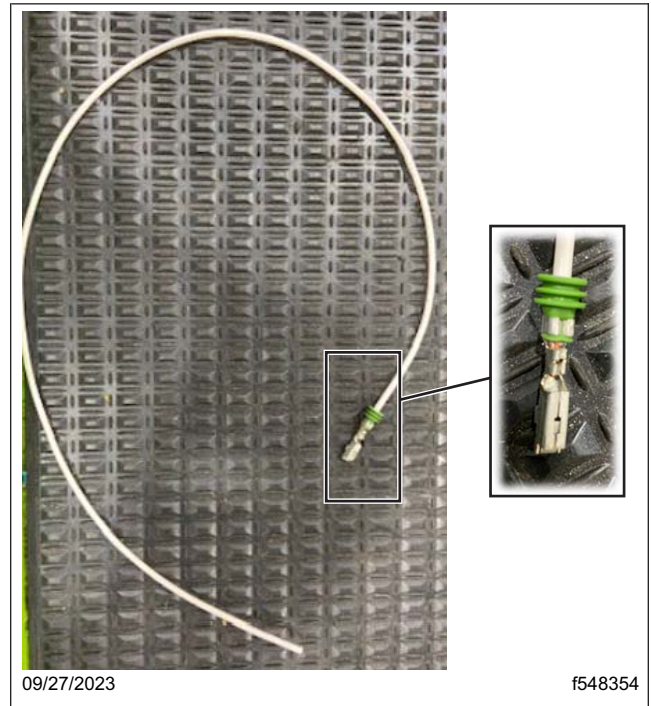

Fig. 86, 24-inch Length of 16 Gauge Wire with the Terminal and Seal Crimped on One End
- Cut a length of white 16-gauge wire approximately 24 inches long. On one end of this short wire, install a terminal (PAC 12110847 L) and seal (PAC 15324984 B). See Fig. 86.